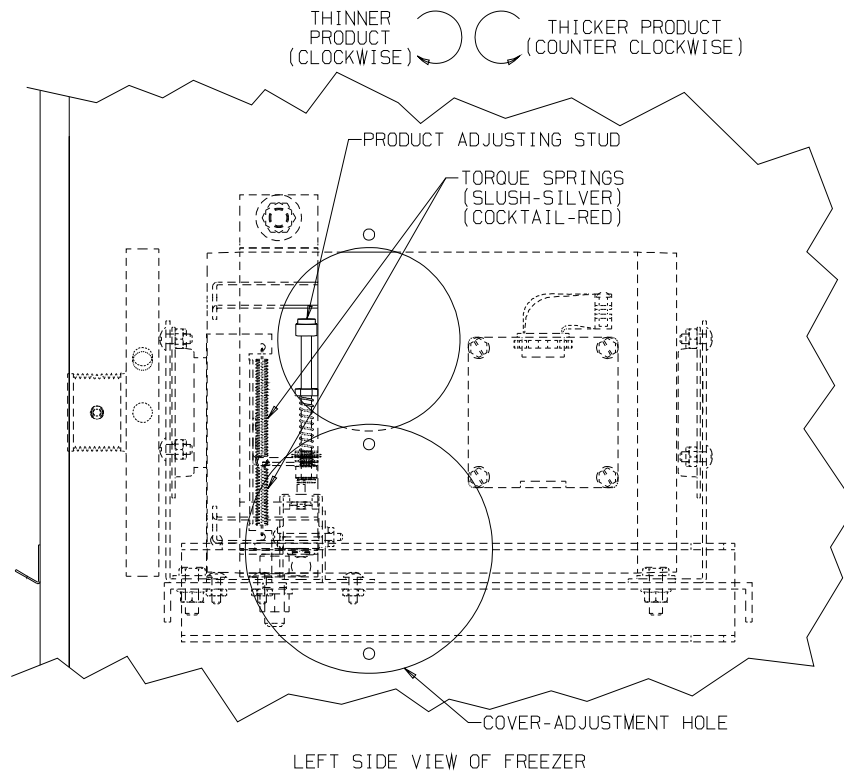

Figure 10-1
4. Look into the access hole and you will see an arm extending from the drive motor (see figure 10-1.) The arm is held in place by springs on both the top and bottom. At the end of this arm is a nylon adjusting stud. This stud will adjust the consistency of the product.